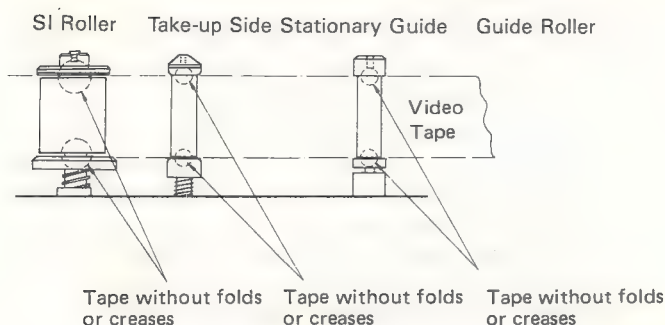

Figure 21
Check that the edge of the video tape is not folded or creased, as shown in Figure 21, during the travel of the tape.
2. After adjustment is completed, always adjust the tape travel, and adjust the T and S guide rollers before carrying out the checks in Figure 21.
2. Check and adjust the SI roller and the stationary guide using the stationary guide adjustment jig as shown in Figures 21 and 22.